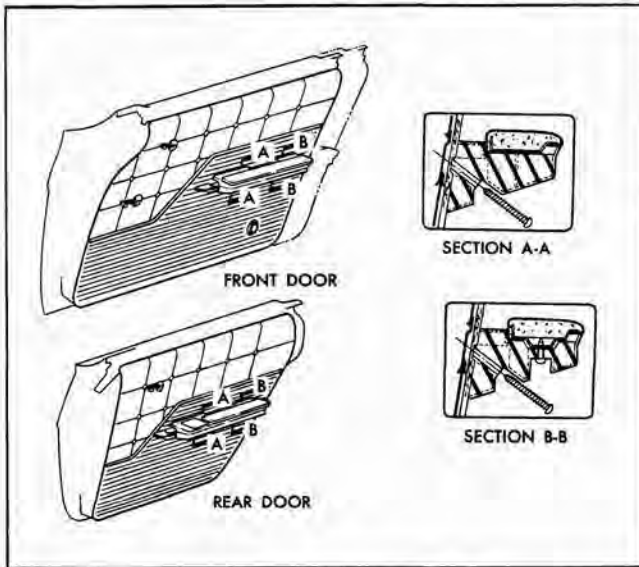

Fig. 3-11 Front and Rear Door Trim
1. Remove screws securing arm rest assembly to door inner panel and remove assembly (Fig. 3-11, typical of all "B" body door arm rest installations).